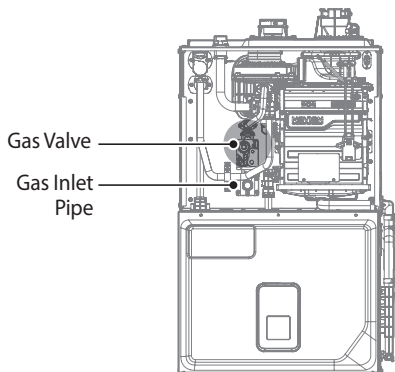

Figure 2. NPF Series Internal Components
- With the internal components exposed, locate the gas inlet pipe and the gas valve, as shown in Figure 2.